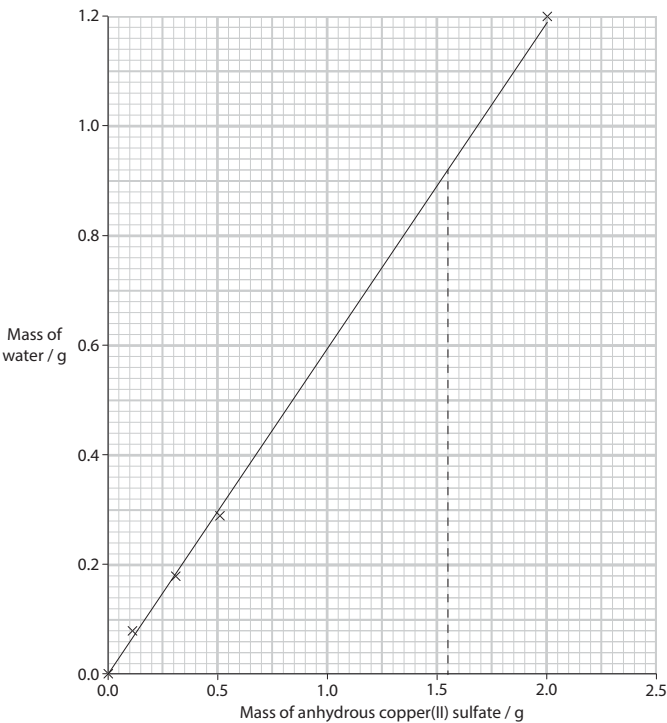

Figure 1.1
- a & b** It is quite easy to get a set of results that give the ideal answer for this practical (see Table 1.1 and Figure 1.1).
- c** As can be seen from the graph, the mass of water that combines with 1.60 g of copper(II) sulfate is 0.90 g